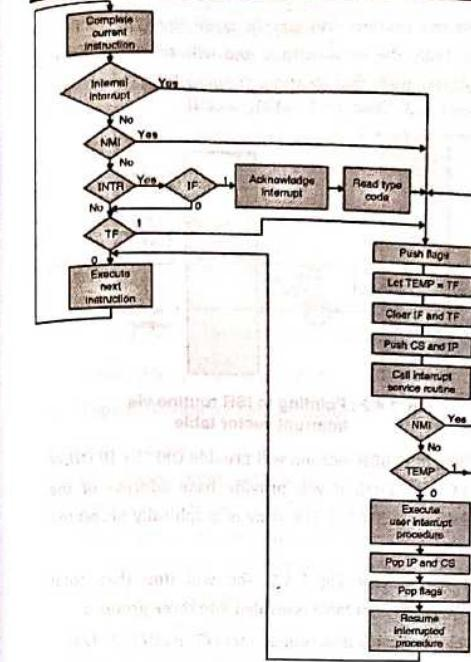

Fig. 7.3.1 : Interrupt processing sequence/priority sequence
- Now the main important point is, how 8086 acknowledges it. The same has been graphically presented in flow chart (Refer Fig. 7.3.1).
- (1) First, microprocessor will complete execution of current instruction.
- (2) It checks for any internal interrupt, suppose the same is not present.
- (3) Then it checks for NMI i.e. hardware interrupt.
- (4) If NMI is not present, it will check for INTR.
- (5) In absence of INTR, it will continue checking for TF (Trap, single step) flag.
- (6) If TF is not equal to 1, it will switch over to next instruction.
- (7) If you observe flow chart, you conclude that except INTR, all interrupt comes to point of pushing flags. Therefore first we will take path of INTR and after that next discussion is common to all interrupts.